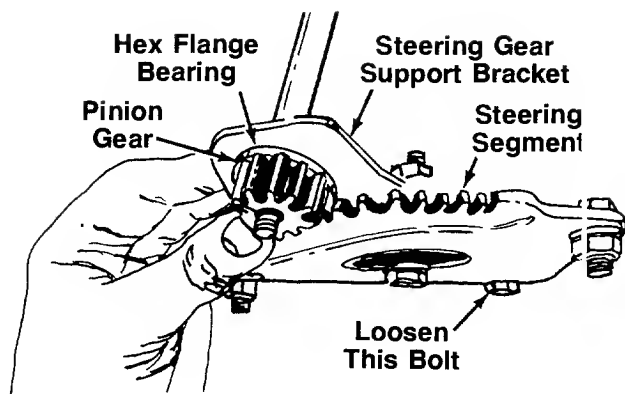

FIGURE 6.
6. **Style A**—Insert the **steering shaft** with assembled parts through the **steering housing cover**. The lower end of the shaft should extend through the hole in the front end of the **steering gear support bracket** (Ref. No. 12 on page 30). See figure 6.
8. Place **hex flange bearing**, flat side down, over the end of the **steering shaft**, and seat it into the **steering gear support bracket**. See figure 6.